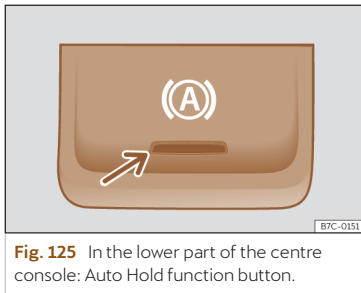

Fig. 125 In the lower part of the centre console: Auto Hold function button.
- (P) When the Auto-Hold function is active, the control lamp on the instrument cluster lights up green. The control light of the (A) >>> Fig. 125 button remains on when the Auto Hold function is connected.